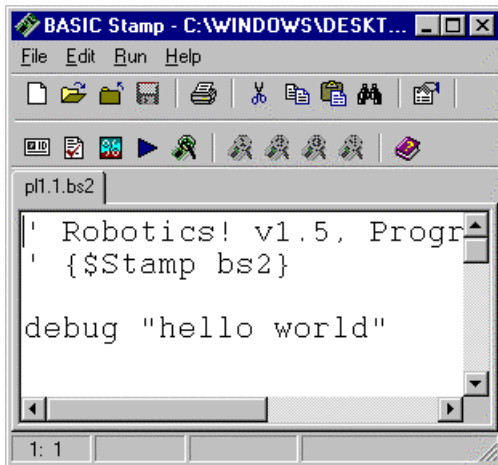

Figure 1.24: (a) Stamp Editor
- ❑ Type Program Listing 1.1 into the Stamp Editor as shown in Figure 1.24 (a).
- ❑ Click Run and select Run. Debug Terminal #1 should appear in a second window, as shown in Figure 1.24 (b).